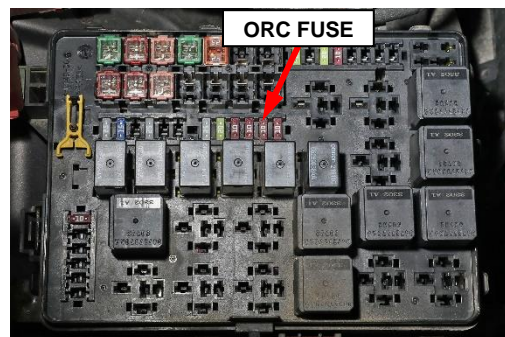

Figure 7 – ORC Fuse
- a. Remove the Occupant Restraint Controller (ORC) fuse (Figure 7).
- e. Reconnect the ORC fuse (Figure 7).